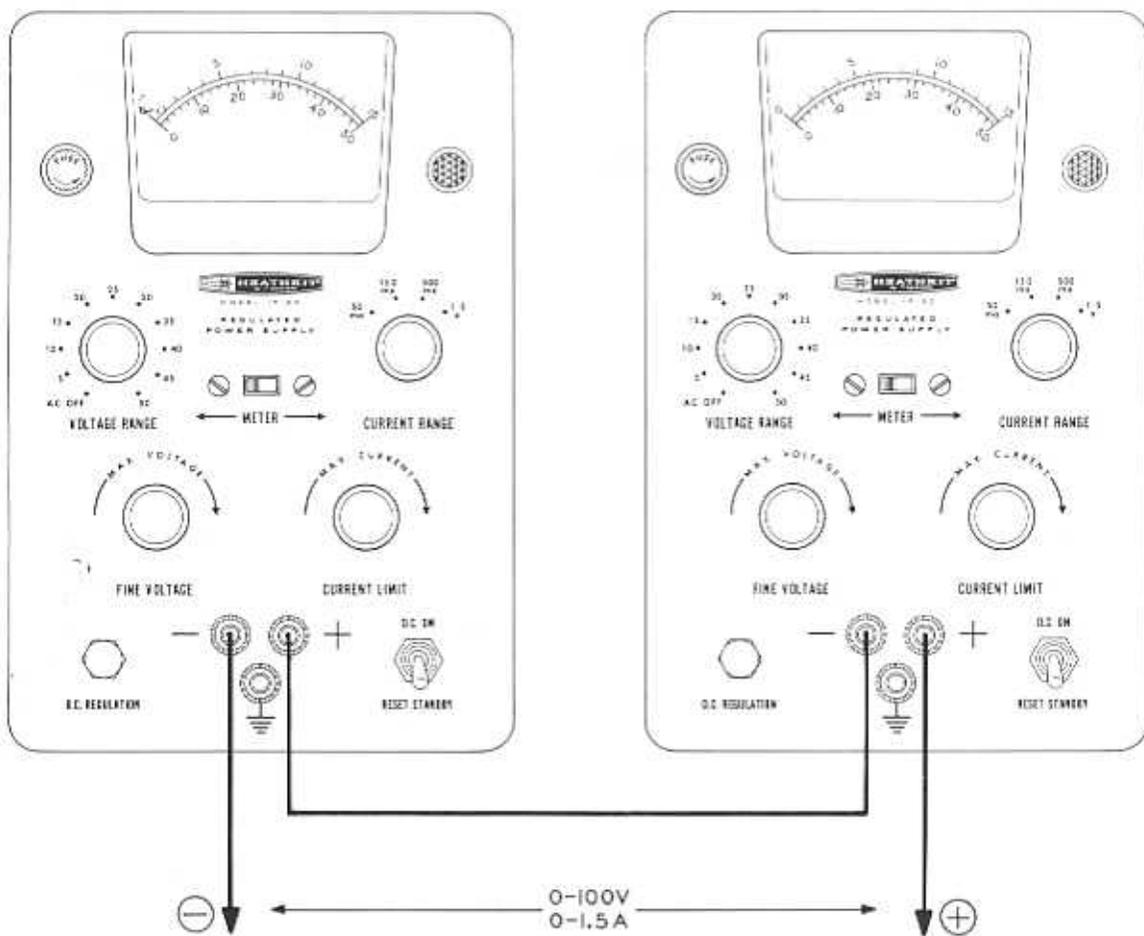

Figure 8
**SERIES OPERATION (FIGURE 8)**
Two or more Power Supplies can be connected in series for voltages greater than 50 volts. See Figure 8 (fold-out from Page 30). Before a load is connected to the series combination, set the CURRENT RANGE switch and CURRENT LIMIT control the same on each Power Supply. The toggle switch on all but one Supply can be left in the DC ON position. The switch of the Power Supply connected to the (+) side of the load can be used for standby.